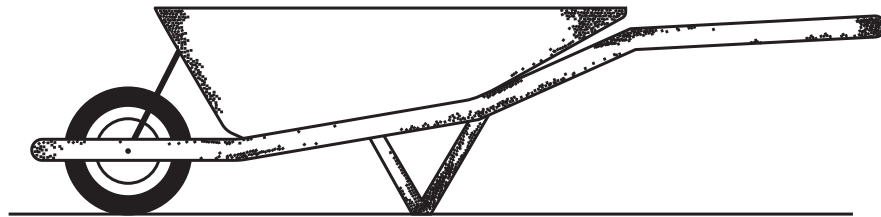

Fig .2
- (c) **Fig 2** shows a wheelbarrow, class 2 lever system.